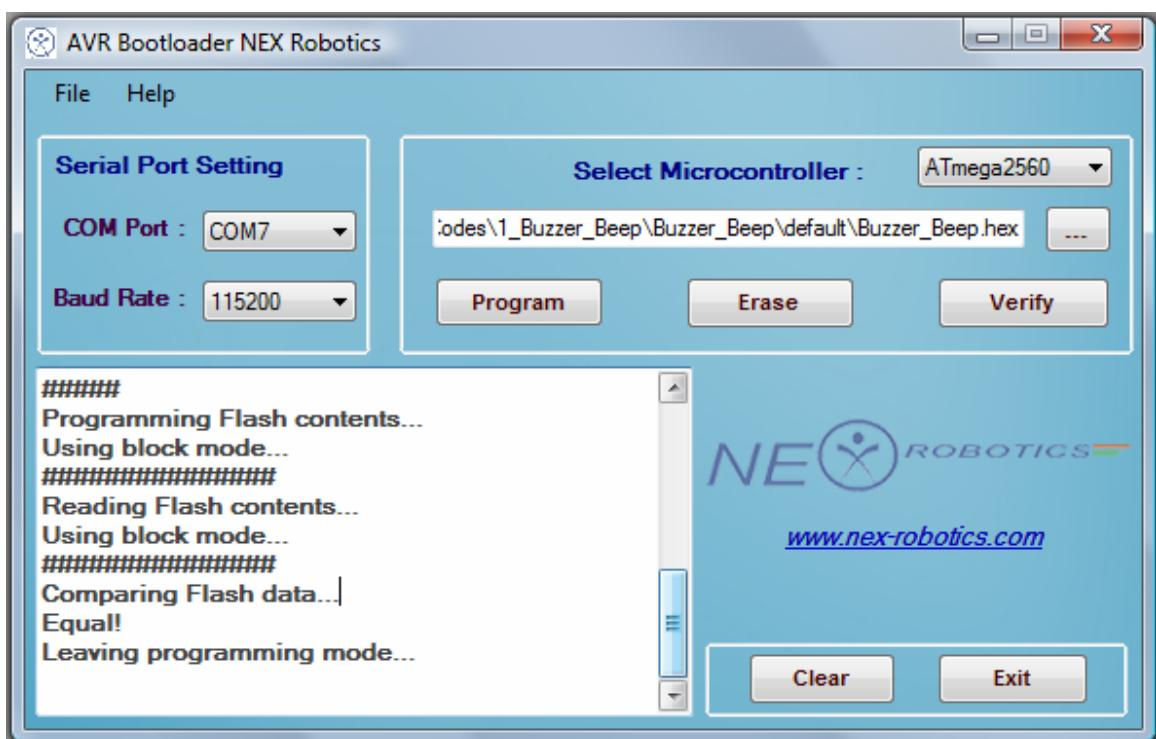

Figure 2.37
3. Figure 2.37 shows the comments in the message box after successfully programming the ATMEGA2560 microcontroller on the robot.